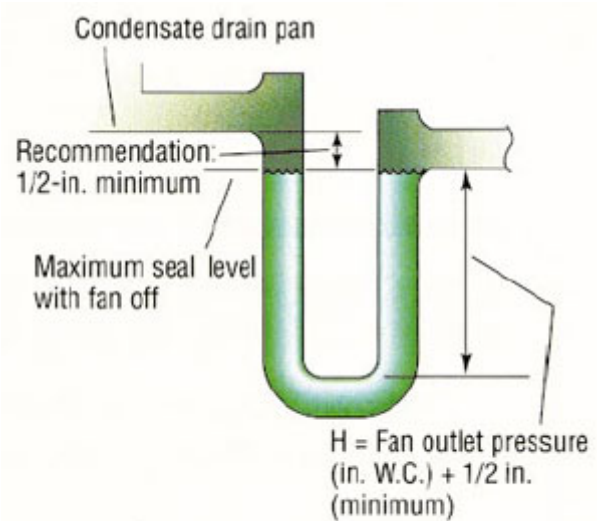

Figure 4 : Trap for blow-thru unit, fan off.
**Figure 4** shows the required dimensions of traps on blow-thru units and the maximum level of condensate that can exist in such traps with the fan off. Here again, the 1-in. safety factor is a practical recommendation for accounting for an increase in casing pressure caused by a situation beyond the designer's control (e.g., filter loading, higher installed duct losses, etc.). In most systems, 1 in. of water gauge is a significant percentage of the casing air pressure. Of course, the designer can increase the calculated equipment pressure as necessary.